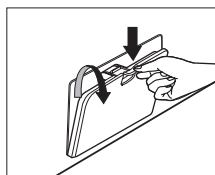

Fig. 12
- Open the service flap. (bottom right corner) (Fig.12)